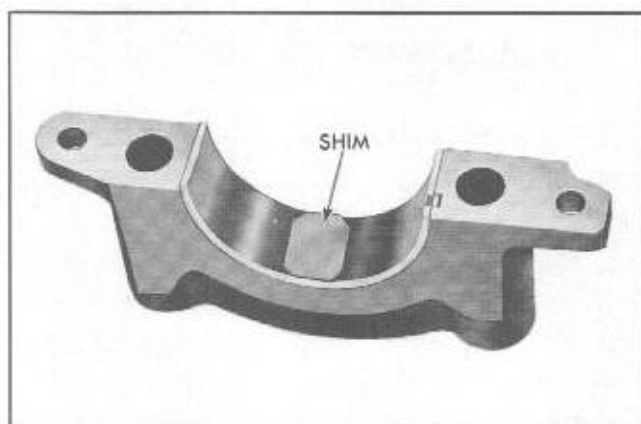

Fig. 6-75 .002" Shim Positioned in Cap for Checking Bearing Clearance
a. Place .002" brass shim  $\frac{1}{2}$ " wide by 1" long in main bearing cap with new standard bearing and install cap, pulling up bolts to specified tightness given in step 6 below. Refer to (Fig. 6-75) for position of shim in cap.
a. Place .0015" brass shim  $\frac{1}{2}$ " wide by  $\frac{7}{8}$ " long in bearing cap with new standard insert (Fig. 6-75) and install cap. Tighten nuts to 45 lb. ft. torque.